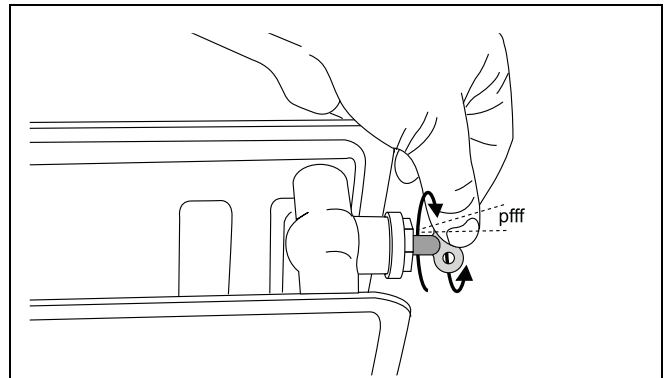

fig. 14 Purging the radiators
- Purge the heating system via the air vents/valves on the radiators. Start at the lower floor of the premises and then work your way up from floor to floor (fig. 14).